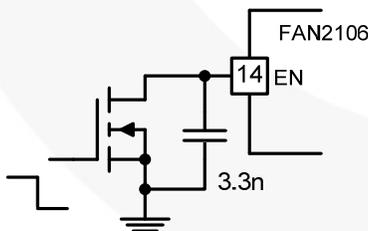

Figure 21. Enabling with External Control
FAN2106 has an internal pull-up to the ENABLE (EN) pin so that the IC is enabled once  $V_{CC}$  exceeds the UVLO threshold. Connecting a small capacitor across EN and AGND delays the rate of voltage rise on the EN pin. The EN pin also serves for the restart whenever a fault occurs (refer to the *Auto-Restart* section). If the regulator is enabled externally, the external EN signal should go HIGH only after  $V_{CC}$  is established. For applications where such sequencing is required, FAN2106 can be enabled (after the  $V_{CC}$  comes up) with external control, as shown in Figure 21.